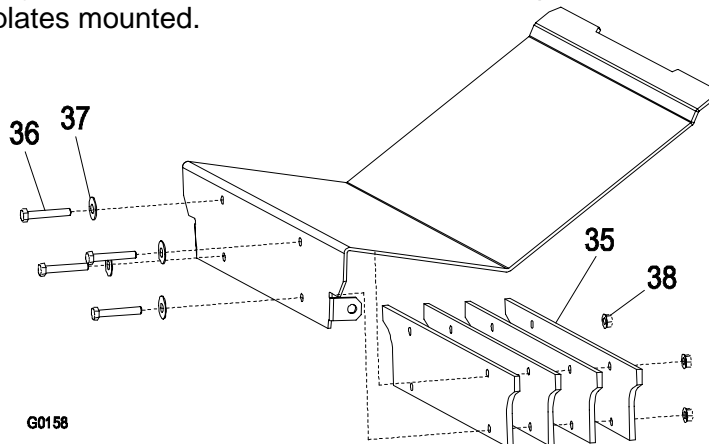

FIGURE 10
- 3.5.4 *For Lazer Z units under 440,000 without a ROPS installed:* Open the floor pan and install the four weight plates behind the front panel using the 5/16-18 x 1.50 screws, 5/16 washers and 5/16-18 whizlock nuts (Items 36, 37, and 38). The weight plates will only fit with the ears located near the bend in the floor pan (See Figure 10). The decal on the outside of the floor pan will still be visible with the weight plates mounted.